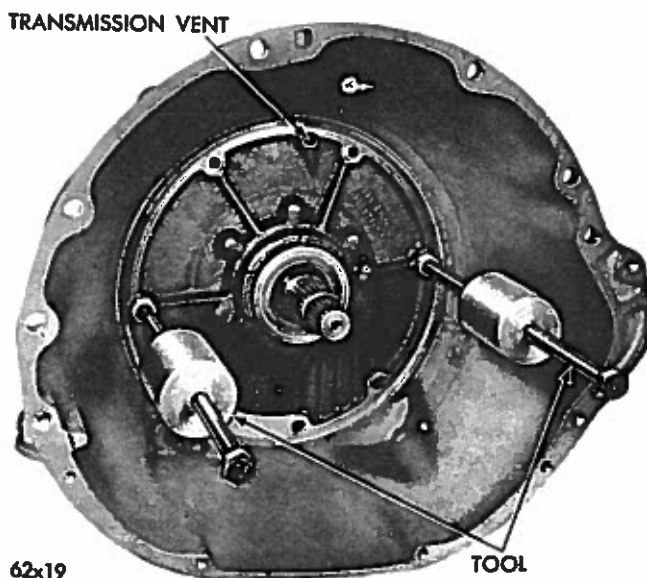

Fig. 46—Removing Front Oil Pump and Reaction Shaft Support Assembly (Tool C-3752)
(1) Remove the front oil pump housing retaining bolts.
(2) Tighten the front band adjusting screw until the band is tight on the front clutch retainer. This prevents the clutch retainer from coming out with the pump which might cause unnecessary damage to the clutches.
(3) Attach Tool C-3752 to pump housing flange as shown in Figure 46, thread the screws of the tool into the flange holes at 9 and 3 o'clock locations.
(4) Bump outward evenly on the two "knocker weights" to withdraw oil pump and reaction shaft support assembly from the case.